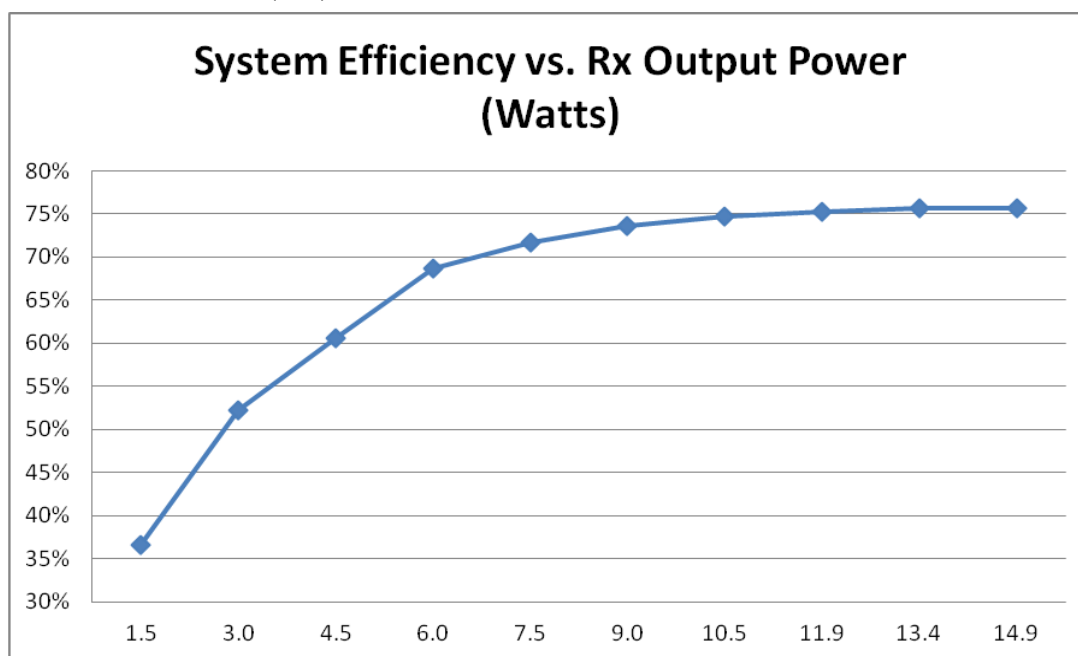

Figure 1 System efficiency on the WCT-15W1COILTX solution
**Note:** Power components are the main factor to determine the system efficiency, such as drivers and MOSFETs. The efficiency data in Figure 1 is obtained on the NXP reference solution with MP TX WCT-15W1COILTX configuration.